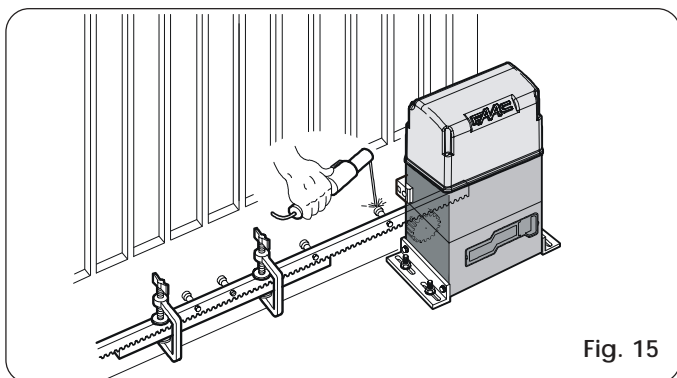

Fig. 15
- 5) Position another rack element next to the previous one, using a section of rack as in Fig.15, to synchronize the teeth of the two elements.
- 5) Position another rack element next to the previous one, using a section of rack as in Fig. 15.